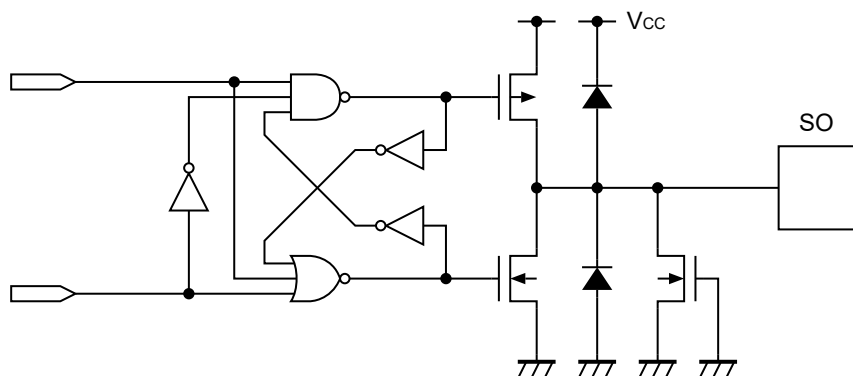

Figure 24 SO Pin
**Figure 24** shows the equivalent circuit of the output pin. This pin has the tri-state output of "H" level / "L" level/high impedance.